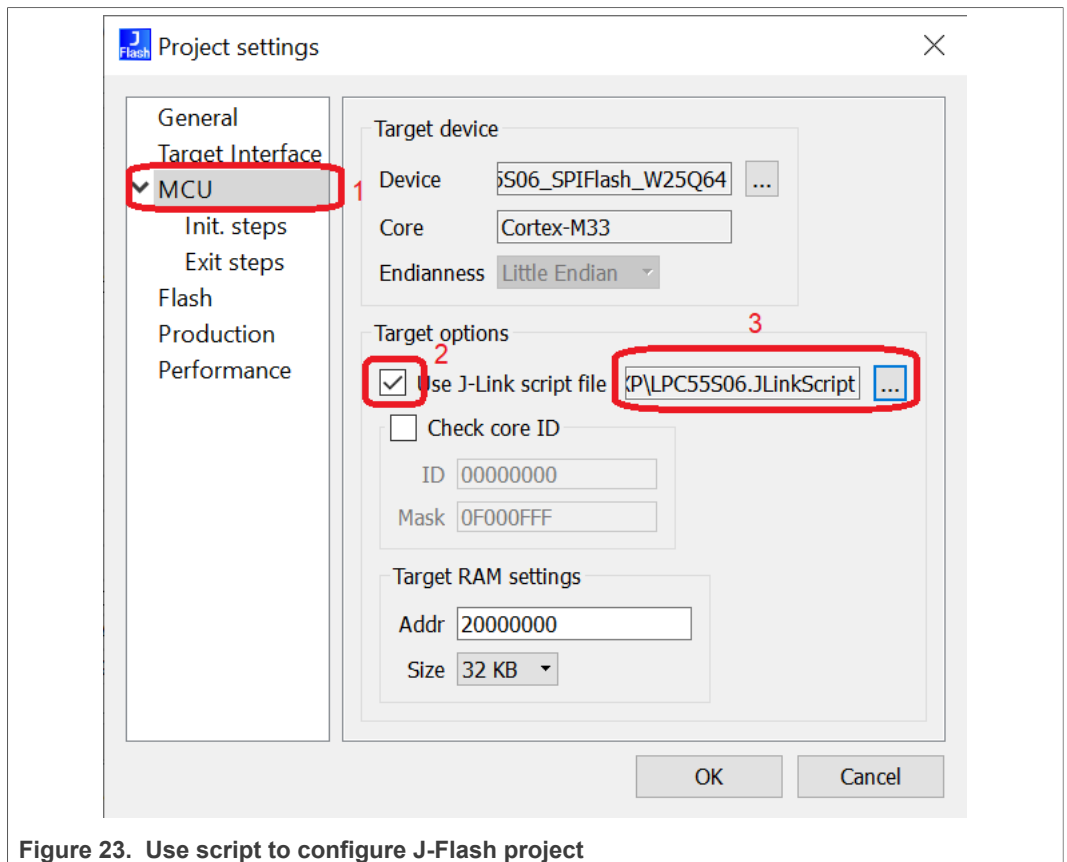

Figure 23. Use script to configure J-Flash project
- g. Click **Options** -> **Project settings**, and the **Project settings** dialog box pops up, as shown in Figure 23. Click **MCU**, enable **Use J-Link script file**, and select script file for LPC55S06. This script file used in this demo is **LPC55S06.JLinkScript** and its contents are as shown in Figure 24.